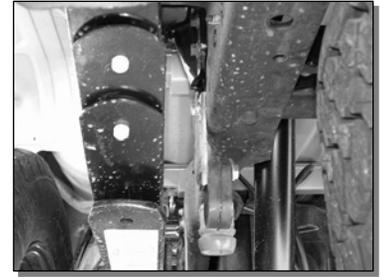

Figure 11
9. Connect the **Driver's Side Tail Pipe** to the **Over Axle Pipe**. Lift the **Tail Pipe** into approximate position. **See Figure 10**. Using the factory hole located in the frame, found directly above the tail pipe hanger, attach the **Rubber Hanger** provided using the 7/16" nut & bolt supplied. **See Figure 11**. Hang the **Tail Pipe** using the installed **Rubber Hanger**.